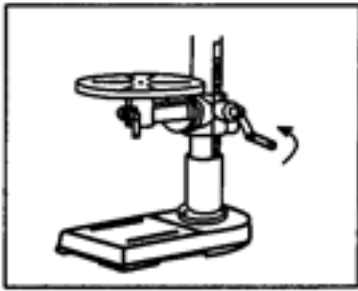

Figure 4
5. Adjusting the rack to proper position by turning crane handle until the bottom of rack reach the column support flange edge. (Fig. 4)
5. Open chuck jaws completely by turning chuck sleeve counter-clockwise to the end. (Fig 4)